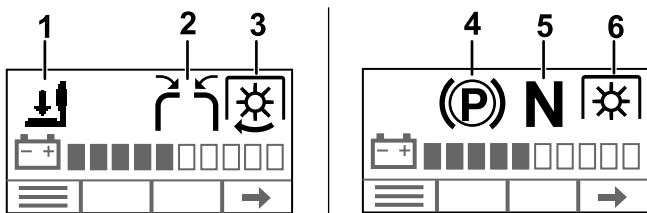

Figure 21
2. Verify that each safety-interlock icon in Figure 21 displays on the InfoCenter when the interlock is active and disappears when it is inactive.